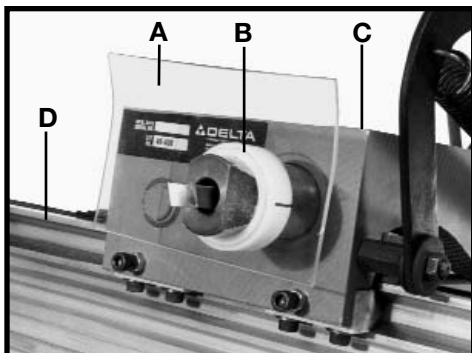

Fig. 72
To position the chip deflector (A) Fig. 72 anywhere along the tool advancement arm:
2. **CAREFULLY** push in or pull out on the pressure ring (B) Fig. 72 as needed and adjust the chip deflector. The chip deflector (A) keeps dust and woodchips from entering the carriage (C) and duplicator guide rail (D).